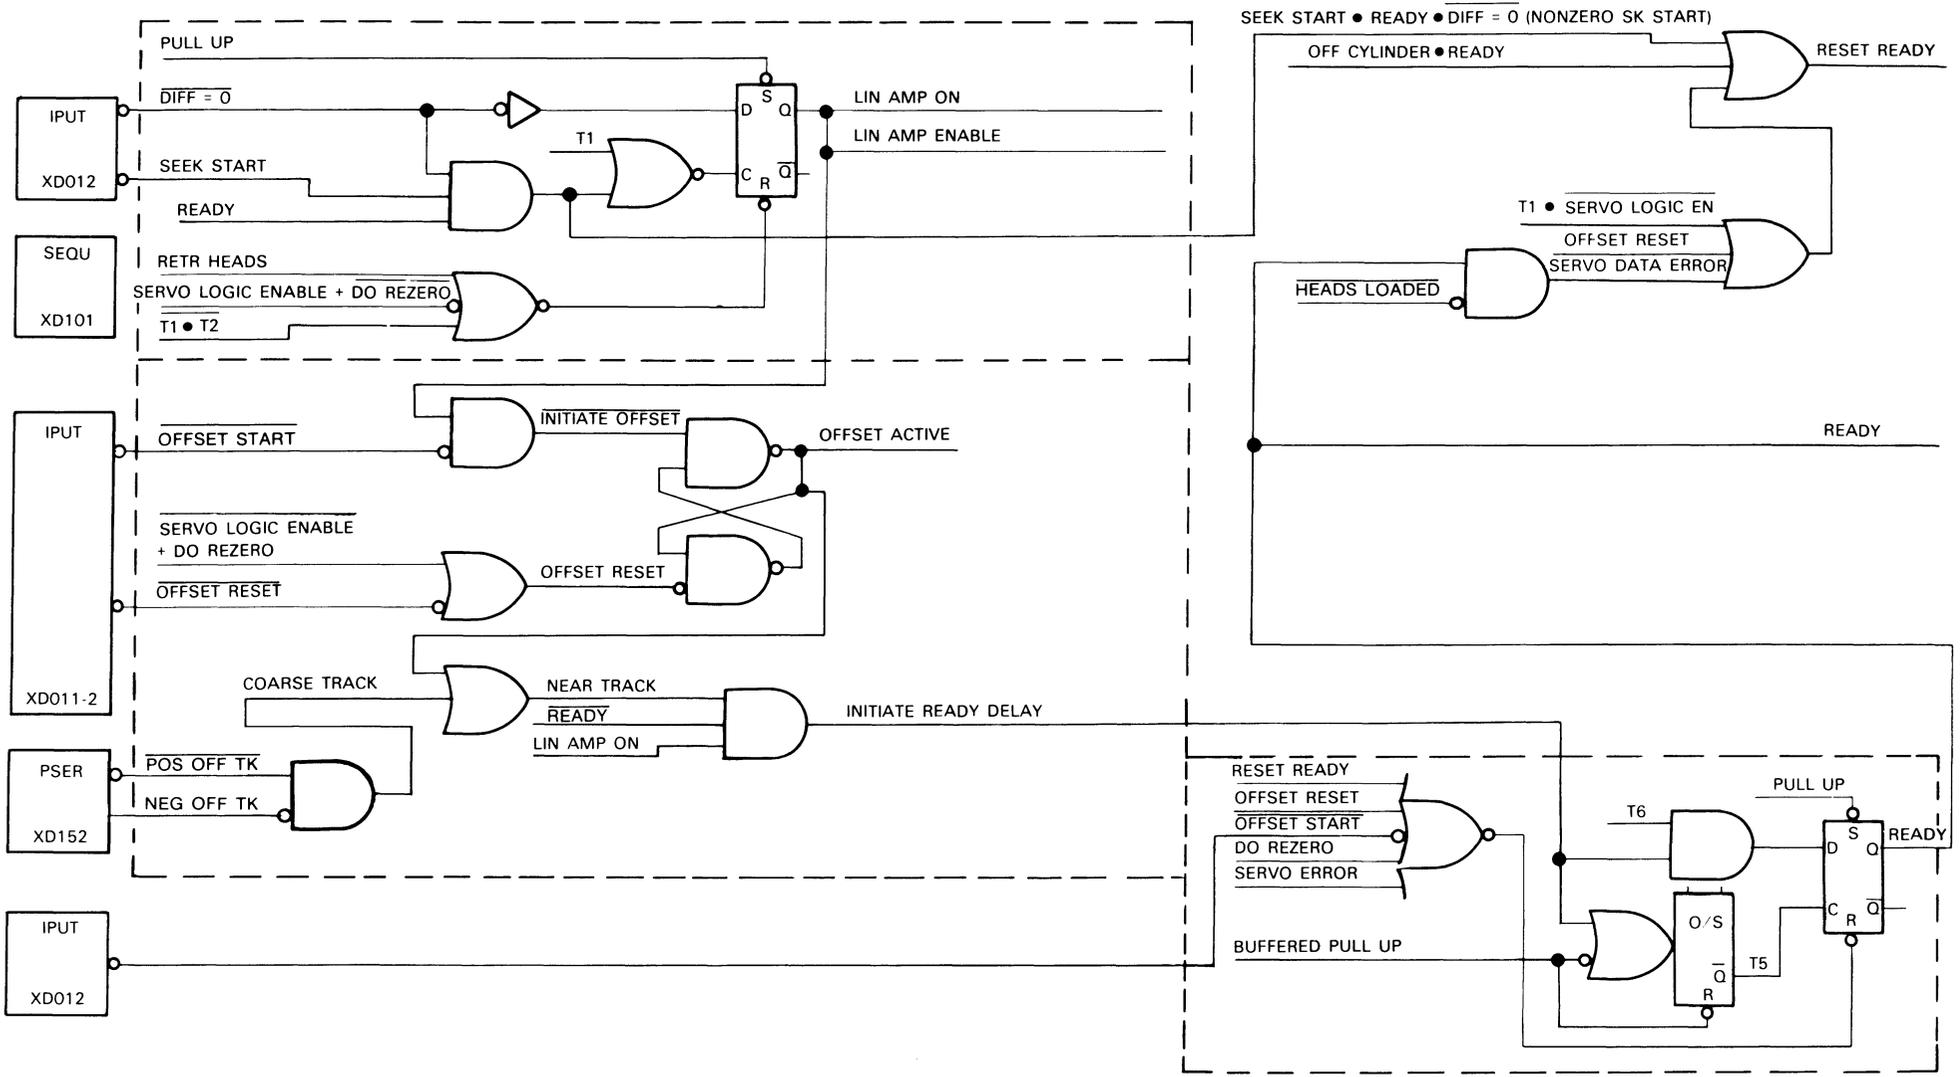

FIGURE 3-51. AMP ENABLE, READY DELAY, ALLOW READY AND READY
Referring to Figure 3-51, LIN AMP ENABLE is latched true when T1 times out, provided the latch is not reset.
STOP VELOCITY being true sets T1, and when timed out the system is in the Position Control mode. Referring to Figure 3-51, COARSE TRACK becomes true when the carriage has positioned the heads near track center. This signal being true allows INITIATE READY DELAY becoming true, provided the linear amp is on and the system is not already in the ready state (READY is false).
Referring to Figure 3-51, READY is latched true when T5 (the initiate ready delay) times out, provided T6 has not timed out and the latch is not reset by one of the five reset conditions shown in the figure. How each reset condition is generated is shown in this figure (or Figure 3-52), except for OFFSET START; it takes the logic from the ready state for 5.85 msec (T4) to allow time for offset positioning by the programmed amount.
- After entering the guard band, T6 is started and T2 is reset. (As indicated in Figure 3-51, T6 does not go false before the logic allows entering the ready state.) With T6 and VELOCITY ENABLE true, the logic enters the track seek state provided the difference count is zero.